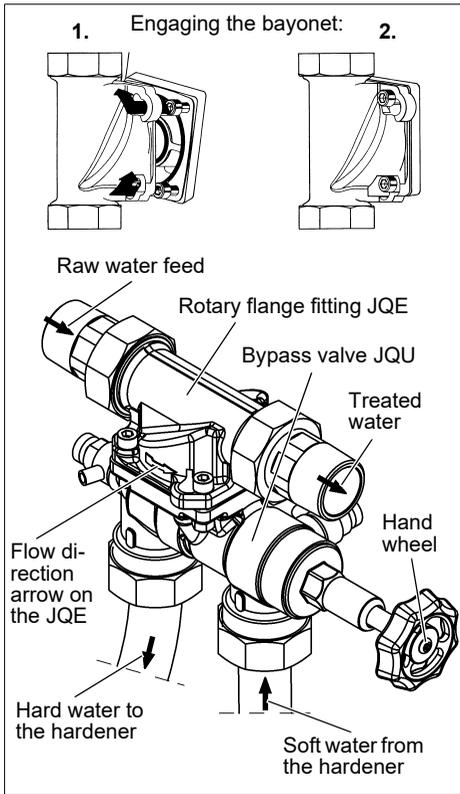

Abb. 4: Rotary flange fitting and bypass valve
- Connect the bypass valve with the rotary flange fitting, by engaging the bayonet (see fig. 4). In doing so observe the flow direction arrow on the rotary flange fitting! The handwheel of the bypass valve must be horizontal and be positioned on the side away from the water feed.